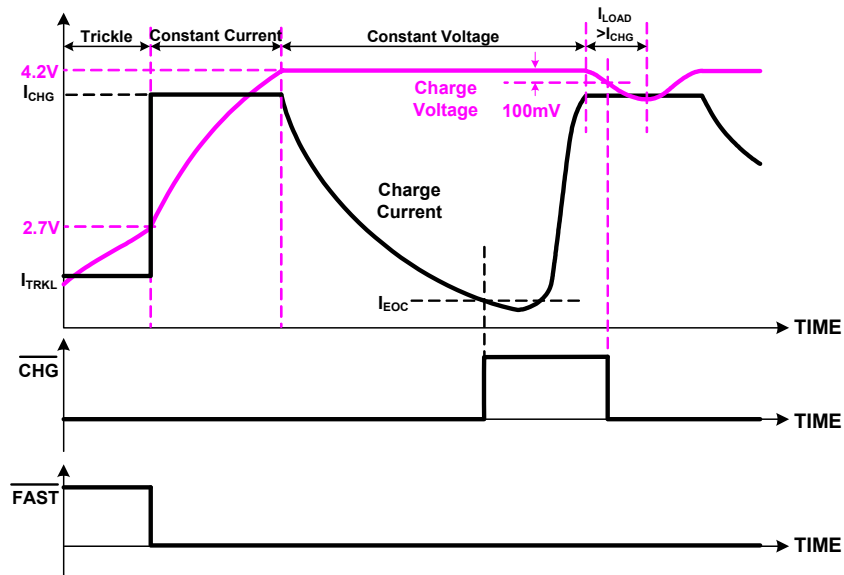

Figure 21. Charge Profile
The MC34671 uses the standard charge profile with trickle, constant-current (CC), and constant-voltage (CV) charge modes, as shown in Figure 21. Both the CC and the CV charge modes are also called fast-charge mode. When the input voltage rises above an internal power-on-reset threshold, the $\overline{\text{PPR}}$ pin outputs a low voltage to indicate the power supply presence. The charger starts with the trickle-charge mode until the battery voltage is above 2.7V. The $\overline{\text{CHG}}$ pin outputs logic low voltage at the beginning of the trickle-charge mode. If the battery voltage is unable to rise due to a battery failure, charging will remain in the trickle-charge mode. When the battery voltage reaches the 2.7V threshold, the MC34671 softly changes to the CC-mode. The soft transition minimizes the input voltage drop and reduces the requirement of the input decoupling capacitance. In the fast-charge mode, the $\overline{\text{FAST}}$ pin outputs a low voltage. When the battery voltage reaches 4.2V, the MC34671 enters the CV-mode and regulates the output voltage at 4.2V. The charge current decreases gradually in the CV-mode. When the current drops to the EOC current threshold, the MC34671